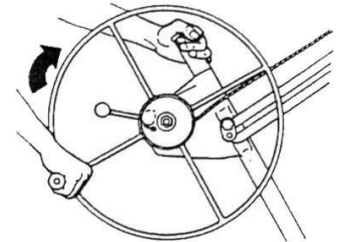

Figure 11
1. Turn the winch wheel in the direction shown in Fig. 11 until the plate is at the desired height. During lifting the plate you can grab the winch rod for easier lifting operation.